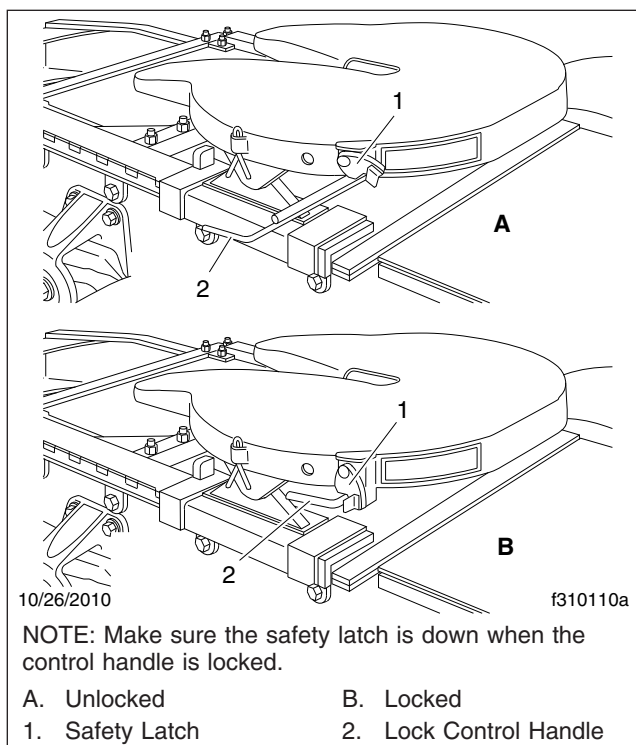
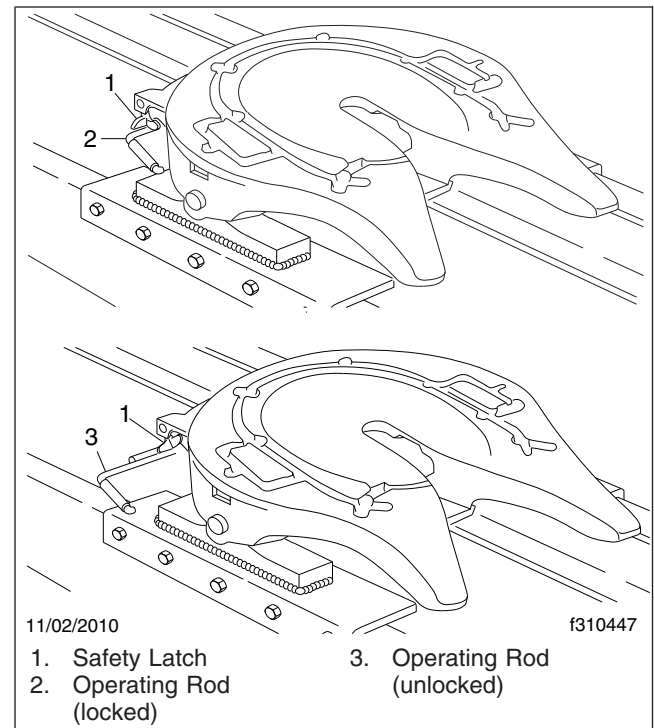

Fig. 17.2, Fontaine Locking Mechanism
Fig. 17.3, Holland Simplex SE Locking Mechanism
2. Ensure the fifth wheel jaw is fully open and the operating rod is in the unlocked position. See Fig. 17.2 or Fig. 17.3.
When lockup has occurred, the fifth wheel control handle moves to the locked position. Make sure that the safety latch is down over the lock control handle to hold the control handle in the locked position (the safety latch will only rotate down if the operating rod is fully retracted in the locked position). See Fig. 17.2 or Fig. 17.3.
- 6.1 **Fontaine:** Lift the safety latch and pull the lock control handle to the unlocked position. See Fig. 17.2.